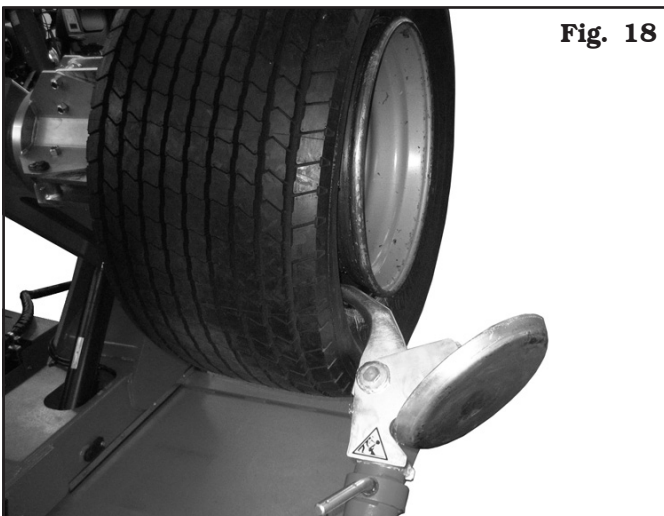

Fig. 18
- Position the tool holder arm on the outer side of the wheel and bring forward the hook tool, inserting it between rim and bead until it is secured to the bead itself (see **Fig. 18**).
- Carry out the tools head 180° rotation until the hook tool is moved onto the tyre side (see **Fig. 18**).
- Move the tool forward until the axis of the reference notch matches that of the external edge of the rim at about 5 mm from the rim itself (**Fig. 18**). Begin clockwise rotation making sure that, after a 90° turn, the second bead begins to slide in the rim groove. Turn the mandrel until the clamp reaches the lowest point (6 o'clock). The second bead should now be inserted in the rim.